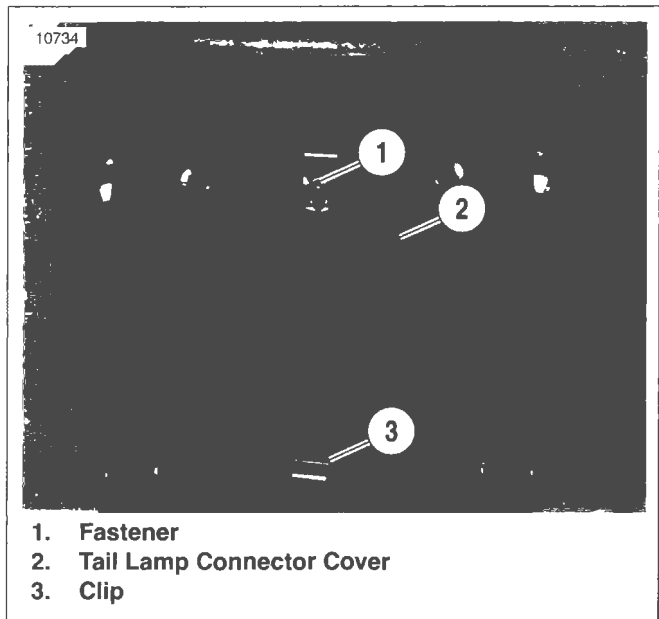

Figure 8-65. Tail Lamp Connector Cover
2. See Figure 8-65. Remove fastener (1). Disengage tail lamp connector cover (2) from clip (3).
9. See Figure 8-65. Slide tail lamp connector cover (2) into clip (3). Install fastener (1) and tighten to 60-90 **in-lbs** (6.8-10.2 Nm).